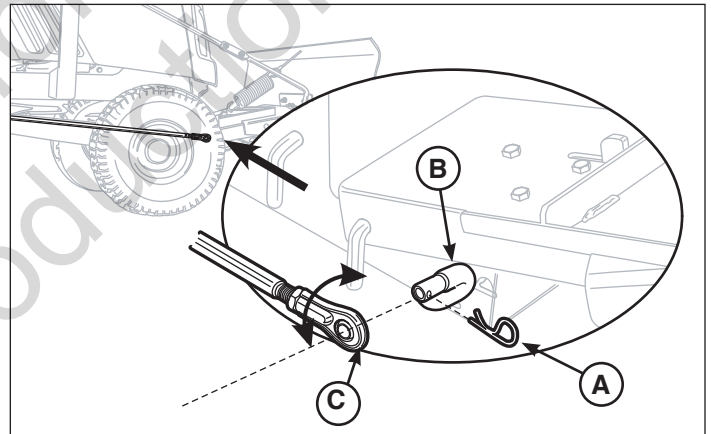

Figure 28
3. Remove hair pin (**A**, Figure 28) from the bell crank (**B**) on the lift rod assembly (**C**).